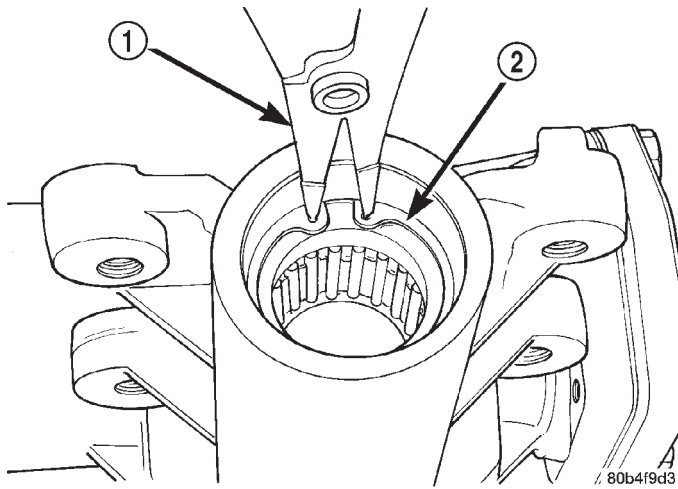

Fig. 10 Oil Seal Retaining Ring
- (7) Remove the pitman shaft oil seal retaining ring with snap ring pliers (Fig. 10).